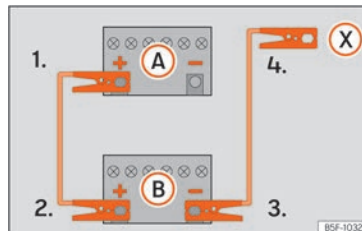

Fig. 68 Diagram of connections for vehicles without Start Stop system
2. Connect one end of the *red* jump lead to the positive (+) terminal of the vehicle with the flat battery (A) » **Fig. 68.**
3. Connect the other end of the *red* jump lead to the positive terminal (+) in the vehicle providing assistance (B).
- 4a. *In vehicles without a Start-Stop system:* connect one end of the *black* jump lead to the negative terminal (-) of the vehicle providing the current (B) » **Fig. 68.**